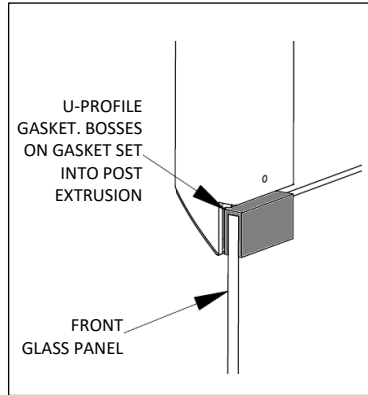

Fig. E11 – Top spacer gasket install
8. For front or back glass, place spacer gasket in position at top of glass before lifting panel into position. See Fig. E11. Bosses on spacer gasket for front glass should fit into post extrusion.